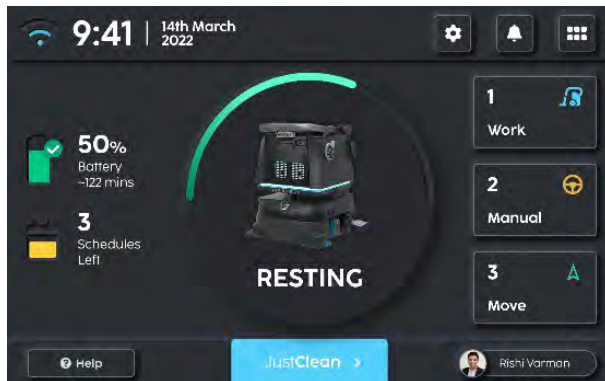

Fig. 1
1. On the 'HOME' screen select 'Just Clean' (Fig1).